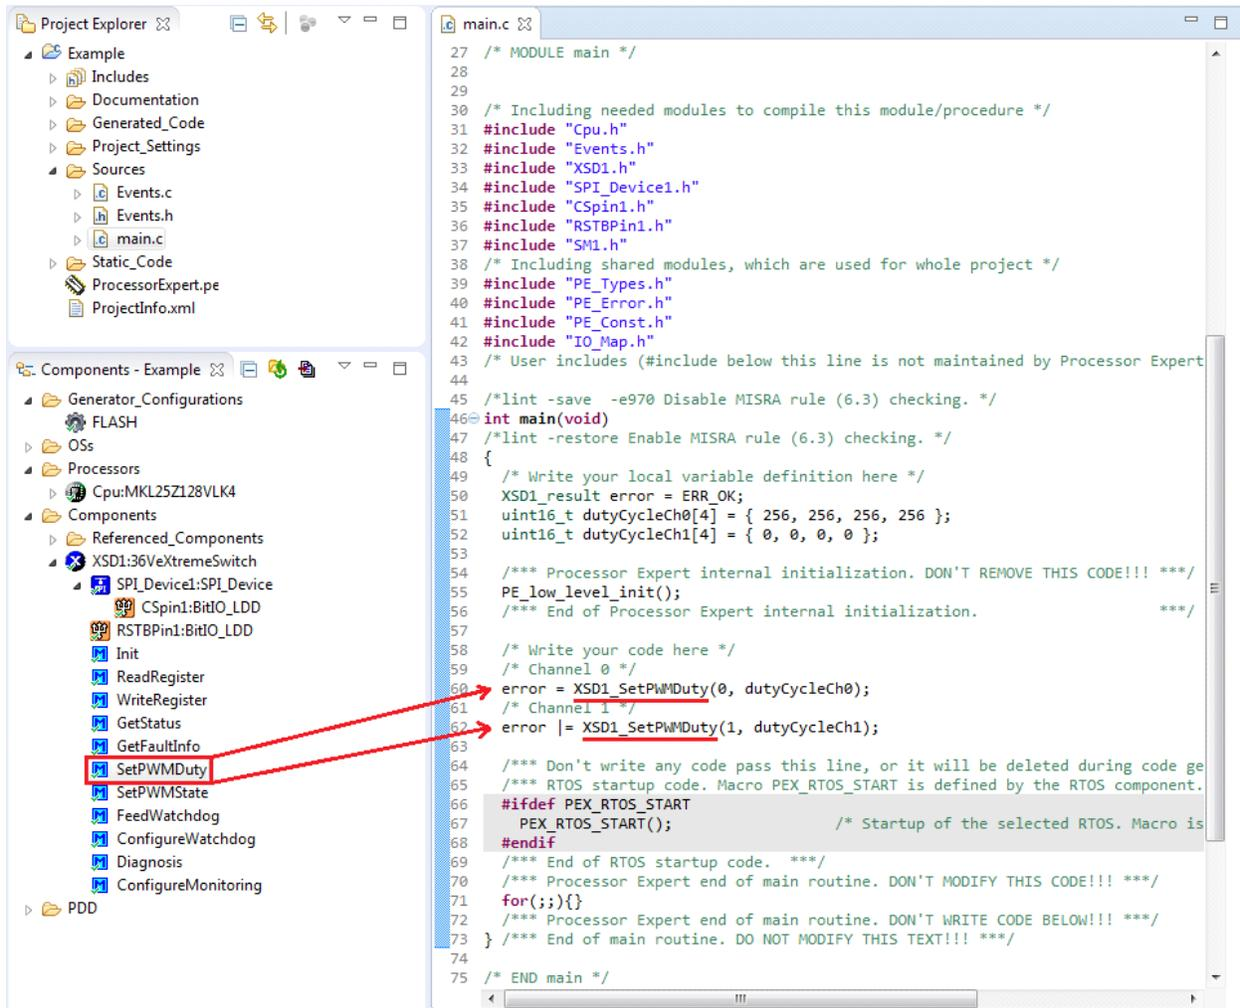

Figure 14. Adding component methods
3. Add the appropriate parameters to the method. Hovering the mouse over the method displays a list of the required parameters. For example, the user can open the 36VeXtremeSwitch component method list, drag and drop **SetPWMDuty** to **main.c** and add the necessary parameters (see Figure 14).